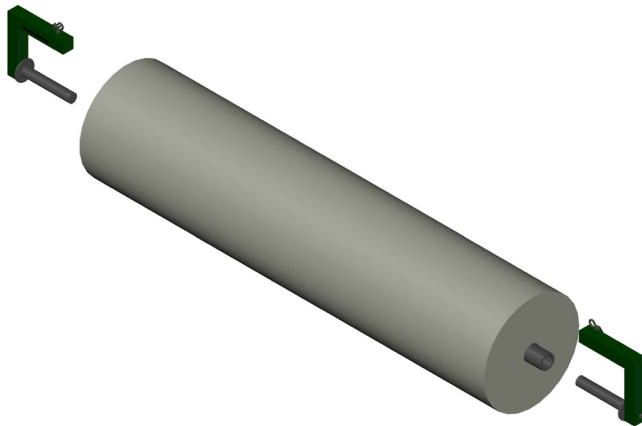

Fig. 3: Crosshead inserts
- Side inserts can also be used as a substitute for a crossbar, eliminating the need for a continuously inserted tube. HUESKER can provide these ball-bearing side nozzles on request (Fig. 3).